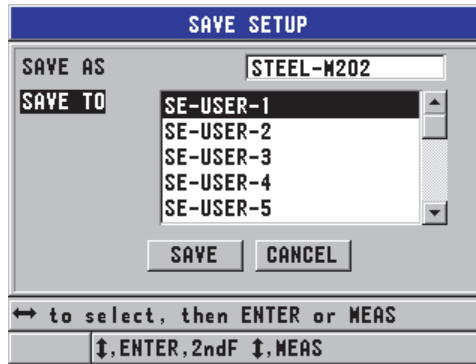

Figure 10-17 Saving custom setups
4. In the **SAVE SETUP** screen (see Figure 10-17 on page 184):